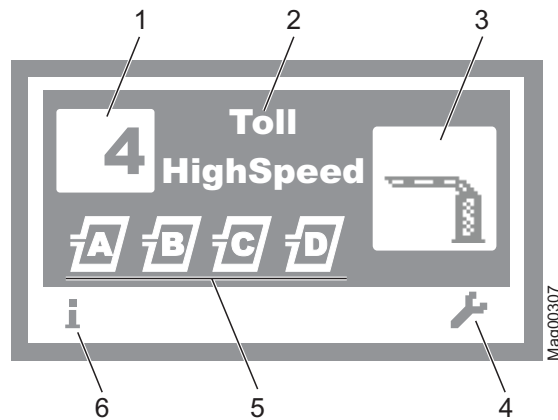

Fig. 38: Example "Operational view"
1. The operating view is displayed. → See page 91, Fig. 38.